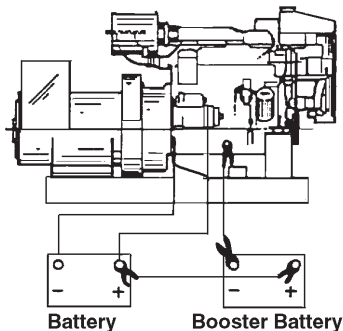

Figure 16:
3. First, connect positive (+) terminal of booster battery to positive (+) terminal of main battery. Then, connect negative (-) terminal of booster battery to ground on the engine block (see Figure 16).